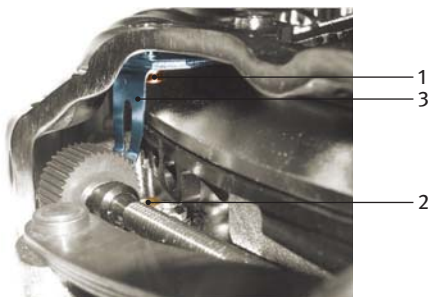

Fig. 15
The diaphragm spring is connected to the drive pawl/adjuster spring (3) of the self-adjustment mechanism via a spacer bolt (1, Figure 15). Owing to the lift of the diaphragm spring, the spacer bolt is raised further as wear increases; the drive pawl is therefore also achieving a higher lift. This movement is transferred from the drive pawl/adjuster spring to the pinion equipped with teeth. If the thickness of the friction lining and hence the travel changes, the pinion turns.